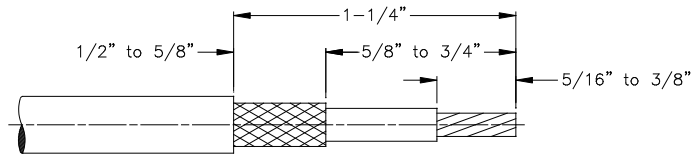

Figure 1
- A. Strip cables to dimensions shown in Figure 1.